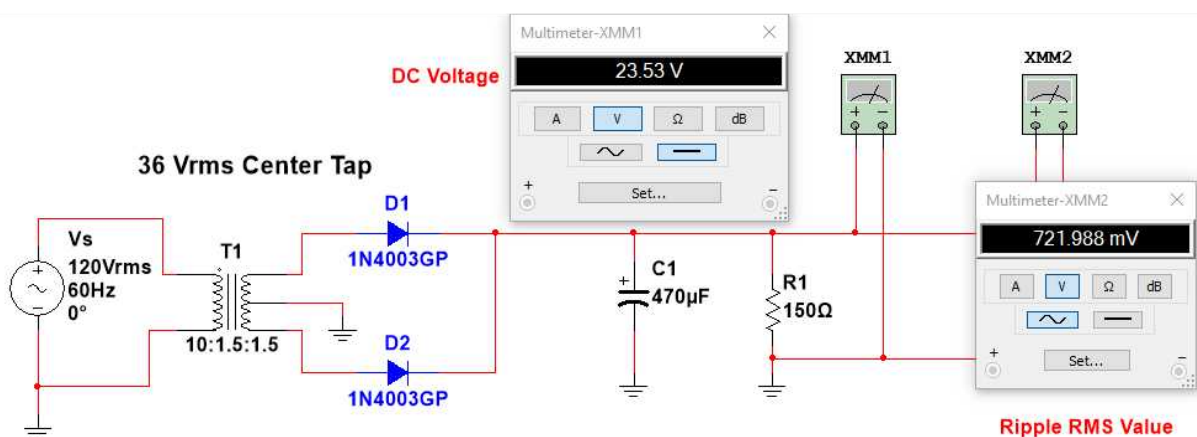

Figure 4-55.
We shall use Multisim to verify the quantities we calculated in Example 4-10. Figure 4-55 indicates we are using two Multimeters (MM). One is being used to verify the DC voltage while the other is measuring the rms value of the AC ripple. *When a Multisim MM is configured to measure AC, it will ignore any DC level and display the true rms value of the AC component.*